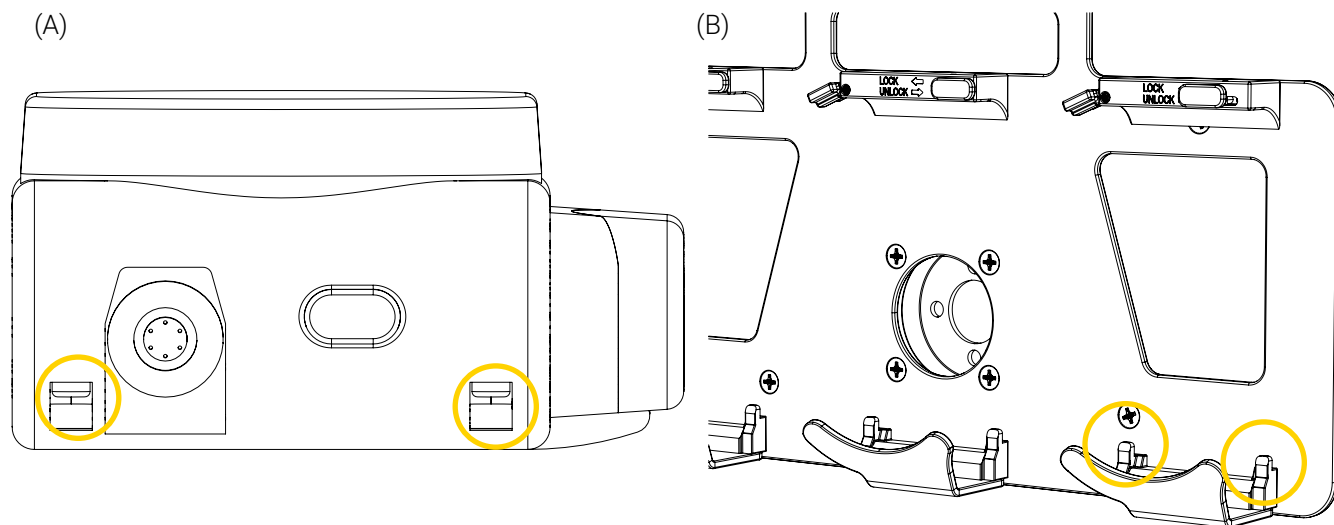

Figure 3: Infusion pump installation (1 of 2)
2. Locate the two (2) cavities at the bottom of the infusion pump (Figure 3 A) and two (2) inserts at the bottom of the pump holder (Figure 3 B).